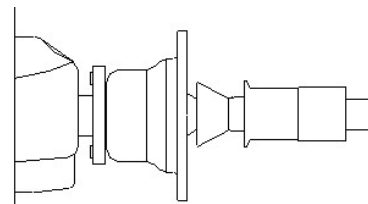

Figure 46 - 2 cones & clamping nut only
3. Place 2 cones followed by the clamping nut (no retainer) onto the shaft. Lift the pedal to clamp. See Figure 46.